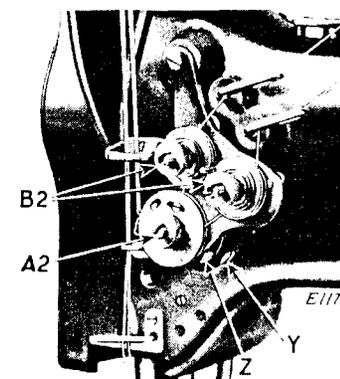

Fig. 15. Adjustment of Thread Controller
The tensions on the needle threads are regulated by the two thumb nuts (B-2, Fig. 15) at the front of the tension discs on the front of the machine. To increase the tension, turn these thumb nuts over to the right. To decrease the tension, turn the thumb nuts over to the left.
To change the thread controller stop for more controller action on the threads, loosen the set screw (Z, Fig. 15) and turn the thread controller spring stop to the right; for less action, turn the thread controller spring stop to the left, after which securely tighten the set screw (Z).
To increase the tension of the thread controller on the threads, loosen the tension stud set screw (Y, Fig. 15), located nearly under the tension stud, and turn the tension stud (A2) slightly to the left with a screw driver, or to decrease the tension, turn it to the right and retighten the stud set screw (Y).